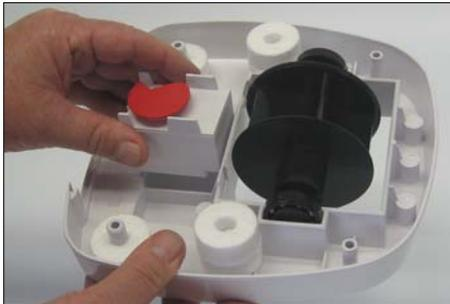

Figure 41
1. Pull up on the gearbox to remove from the lower middle body (fig 41)